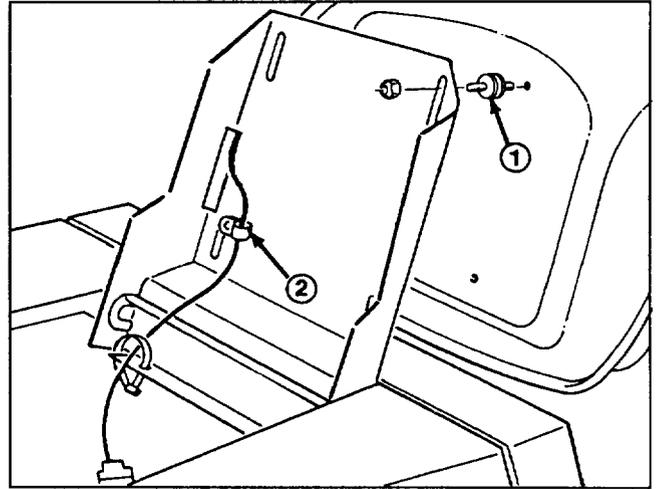

Figure 3
1. Thread (4) seat spacers into bottom of seat (Fig. 3).
2. Position seat onto seat base, inserting seat switch cable thru slot and spacer studs thru mounting holes (Fig. 3).
3. Slide wire clamp over seat switch wire (Fig. 3).
4. Using left rear spacer stud, loosely secure wire clamp and seat to seat base with a locknut (Fig. 3).
5. Mount seat to seat base with (3) remaining locknuts.